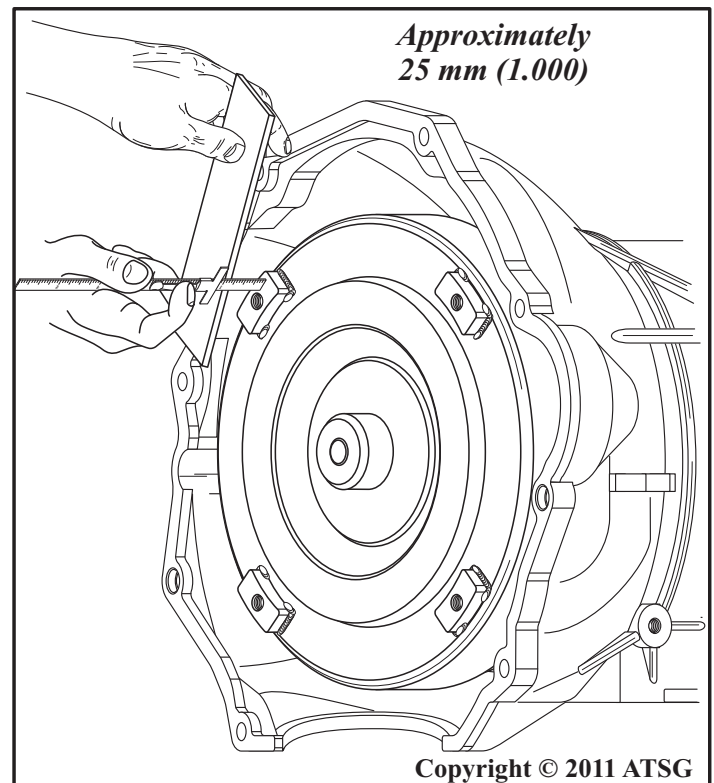

Figure 171
61. Verify with straight edge and scale, as shown in Figure 171, face of converter lugs should be at least 25 mm (1.000") from face of case.